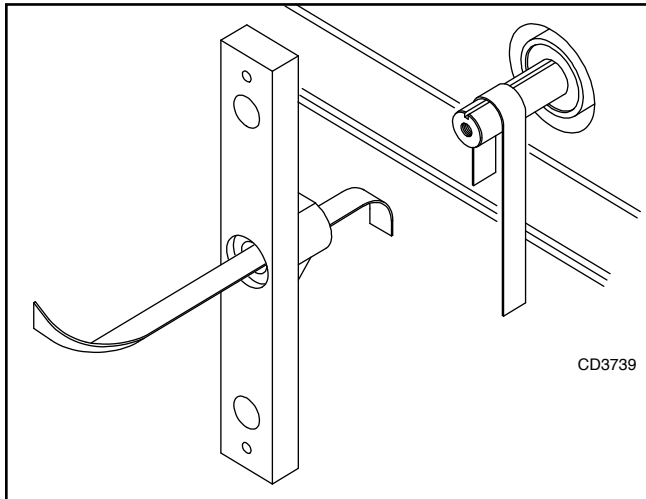

Figure 20.
1. Using emery cloth (220 or finer), remove surface rust, Loctite® and foreign material from hub, splined gearbox, vertical shaft, and crossbar as shown in Figure 20.